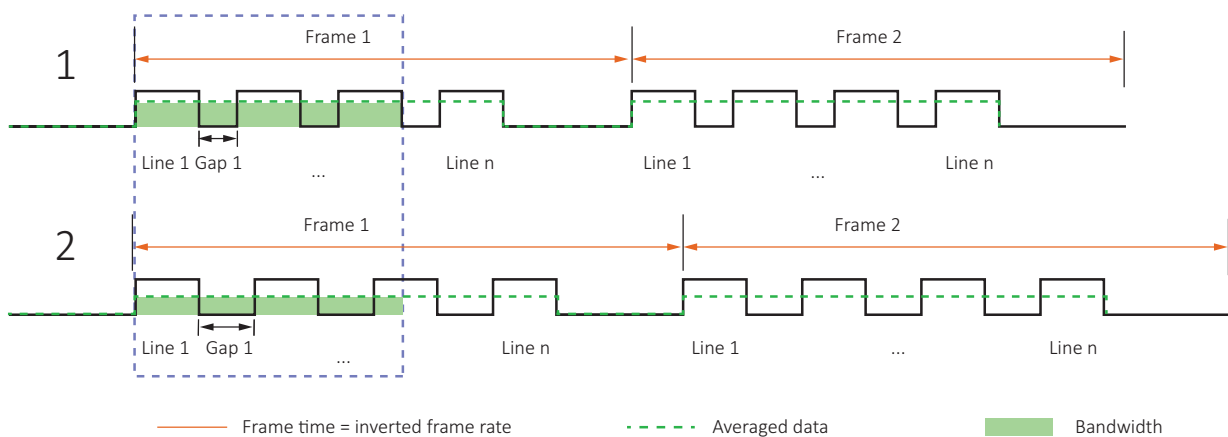

Figure 62: Sensor data output and camera data output
Figure 62 shows the bandwidth for a higher (1) and a lower (2) value for `DeviceLinkThroughputLimit`.